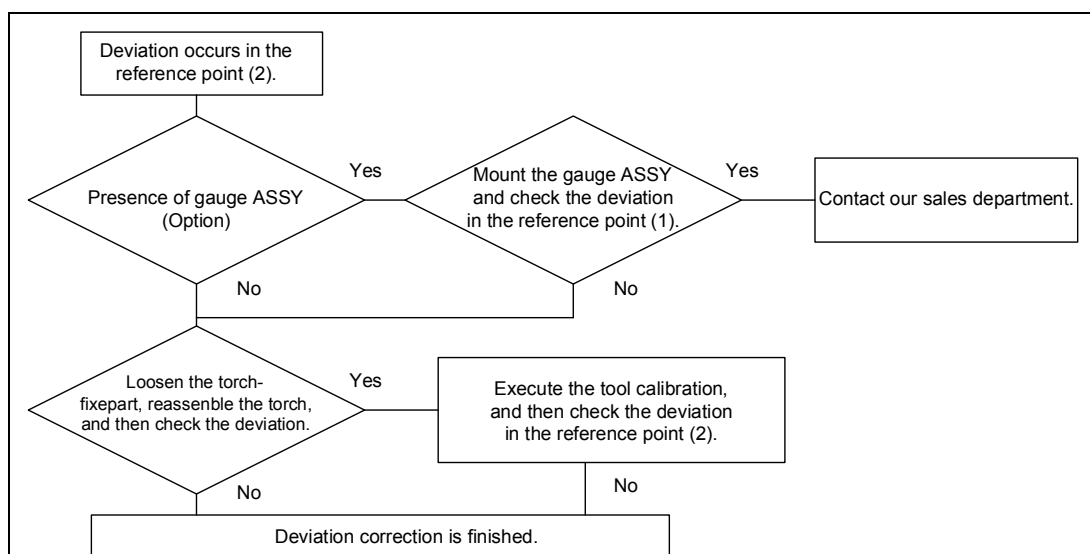

Fig.3.17 Checking procedure when the torch deviated
In the daily check, see if no deviation has occurred in the reference point (2) taught by the origin-position check program. If any deviation has occurred caused by the torch collision etc., correct it by the procedure Fig.3.17.